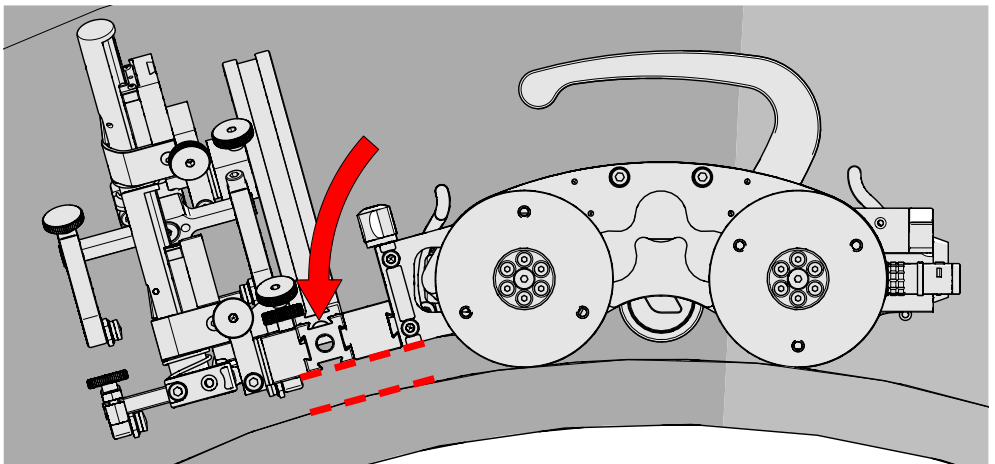

Fig. 238 - Align swivel mount with scan surface
3. Release the front swivel mount adjustment levers to align the swivel mount parallel to the scan surface (Fig. 238).